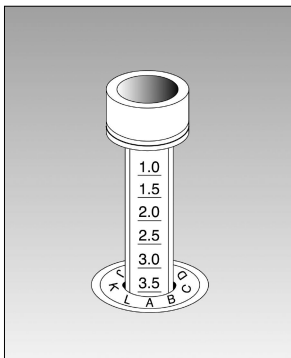

Figure 1
- c. Rotate the plunger until the volume line is level with the surface of the circular scale. (see Figure 1).
NOTE: The circular scale on the pipette bonnet (lettered A through L) is a reference scale that may be used to record the rotational position of the pipette plunger. (See Figure 1). This provides a general position for the plunger. The final volume setting is determined by rotating the plunger to raise the liquid meniscus to the appropriate incremental graduation on the MLA Macro Graduated Pipette Tips. After adjusting the pipette to the desired volume, observe this scale and record the letter opposite the numeric volume.